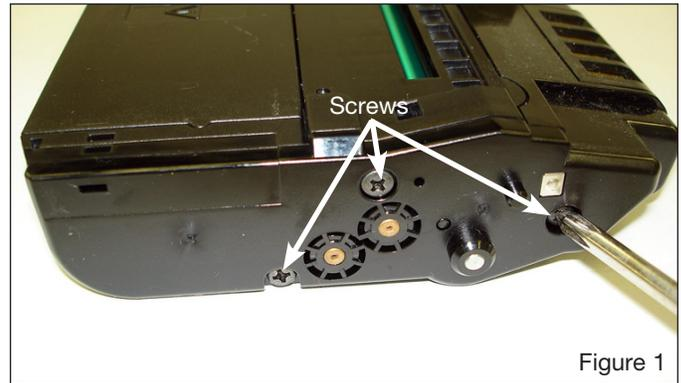

Figure 1
1. Remove the three screws on the contact side end plate as shown in Figure 1.
4. Repeat steps in Figure 1 - 3 for the drive side end plate.